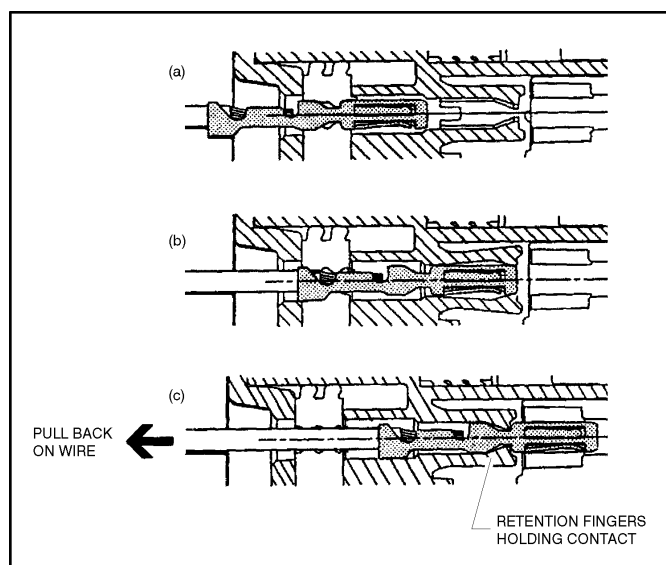

Figure 7-7. Connector Assembly (2 of 4)
1. To insert a contact, push it straight into the appropriate circuit cavity as far as it will go (See Figure 7-7. Connector Assembly (2 of 4)).
2. Pull back on the contact wire with a force of 1 or 2 lb. to be sure the retention fingers are holding the contact (See Figure 7-7. Connector Assembly (2 of 4)).